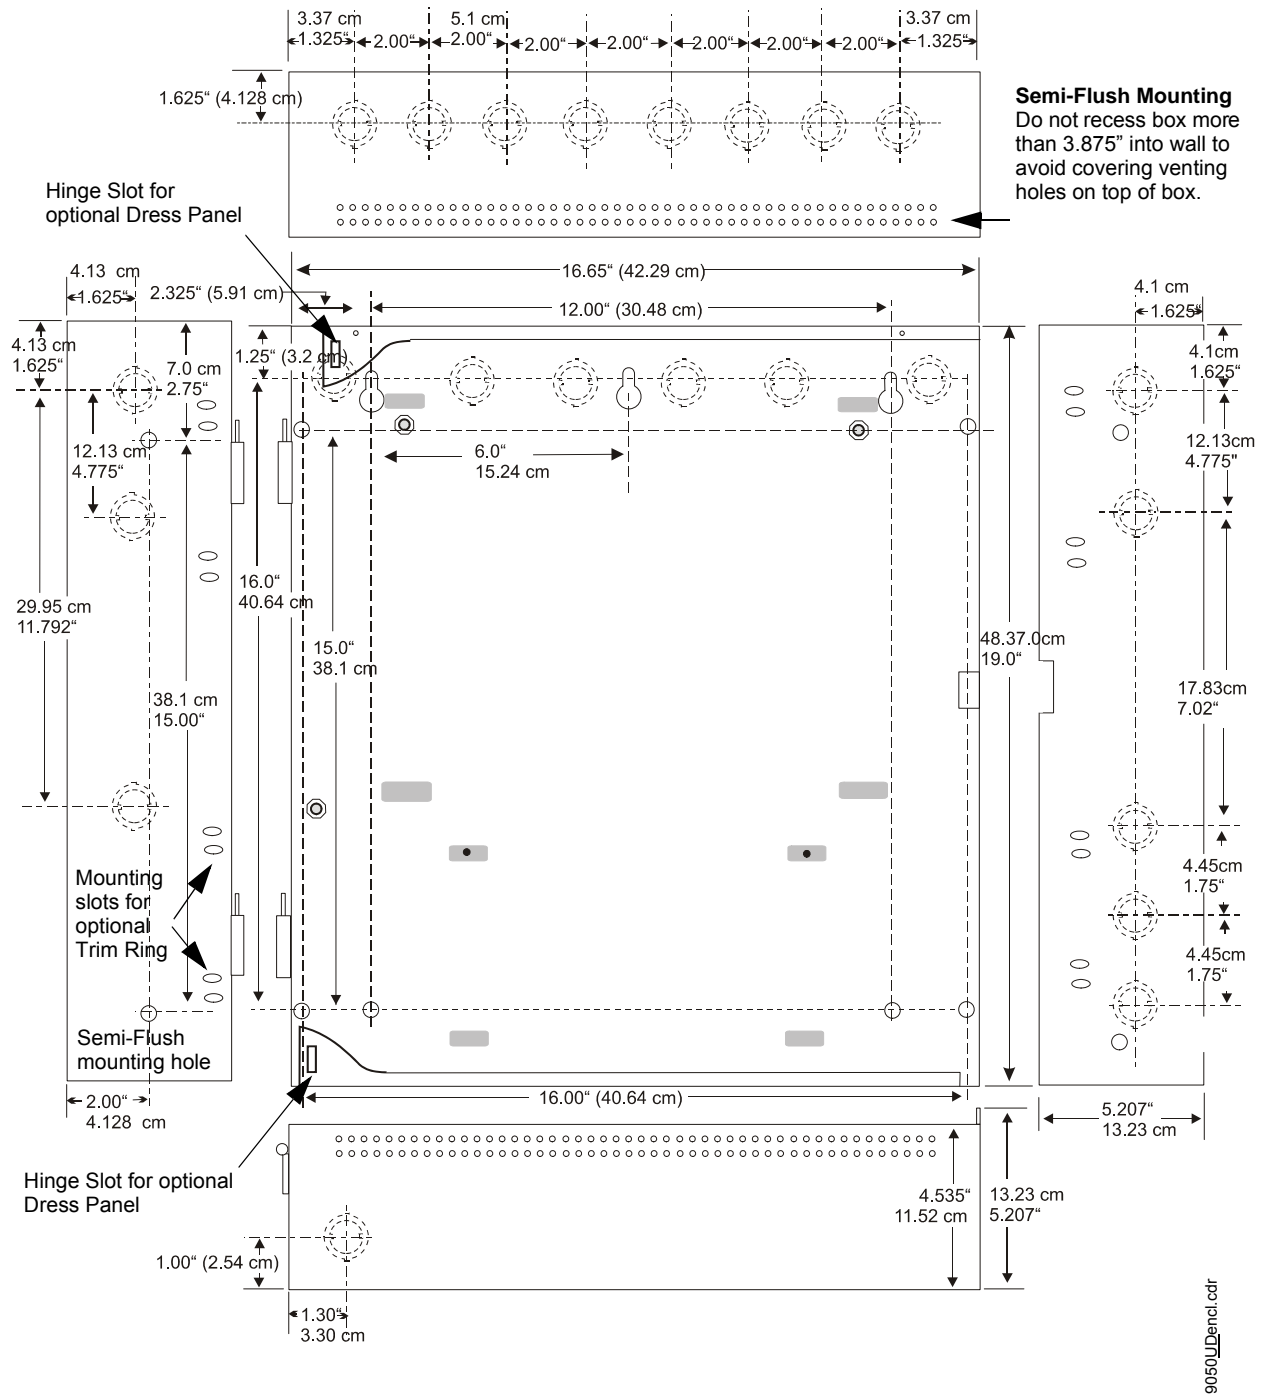

Figure 2.2 Cabinet Dimensions
- ✓ Mark and predrill hole in the wall for the center top keyhole mounting bolt using the dimensions illustrated in Figure 2.2 on page 21